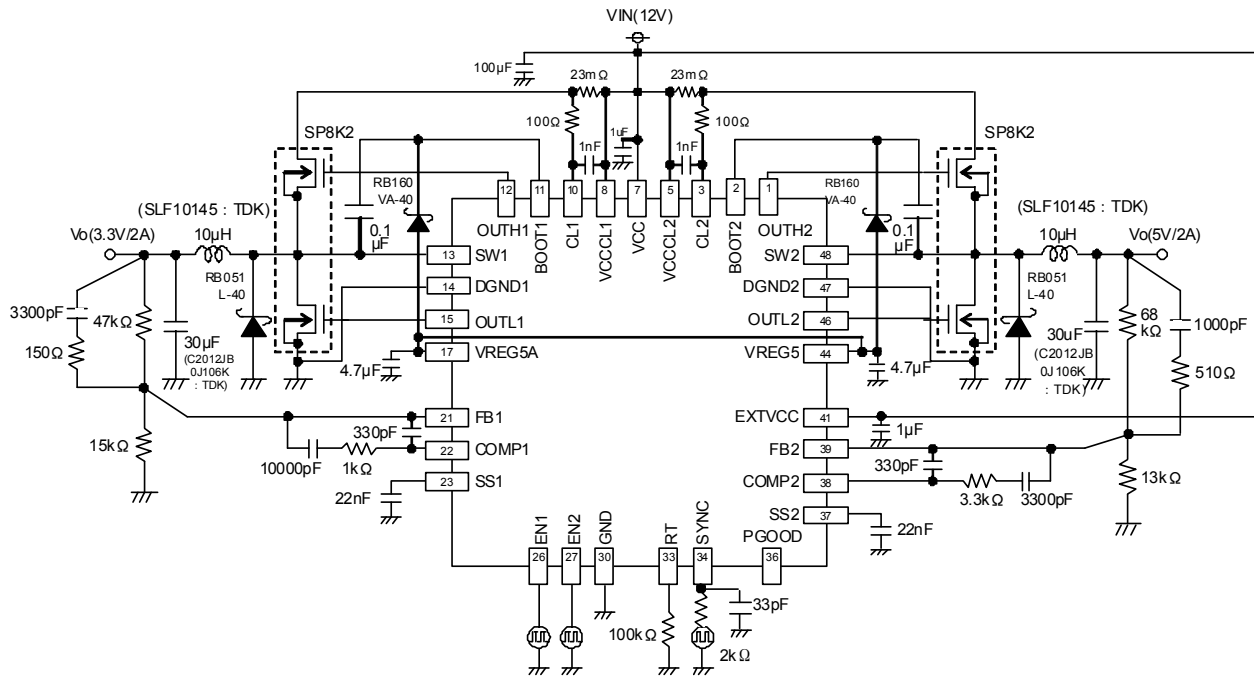

Fig. 13(Step-Down)
The pulse width needs to be more than 200nsec for both on time and off time. Supply a pulse wave faster than the frequency determined with the setting resistor (RT), but slower than 600 kHz ( $F_{\text{osc}} \times 1.5$  or less). Moreover, it is recommended to insert the low pass filter to the SYNC terminal. (Refer to fig.13)